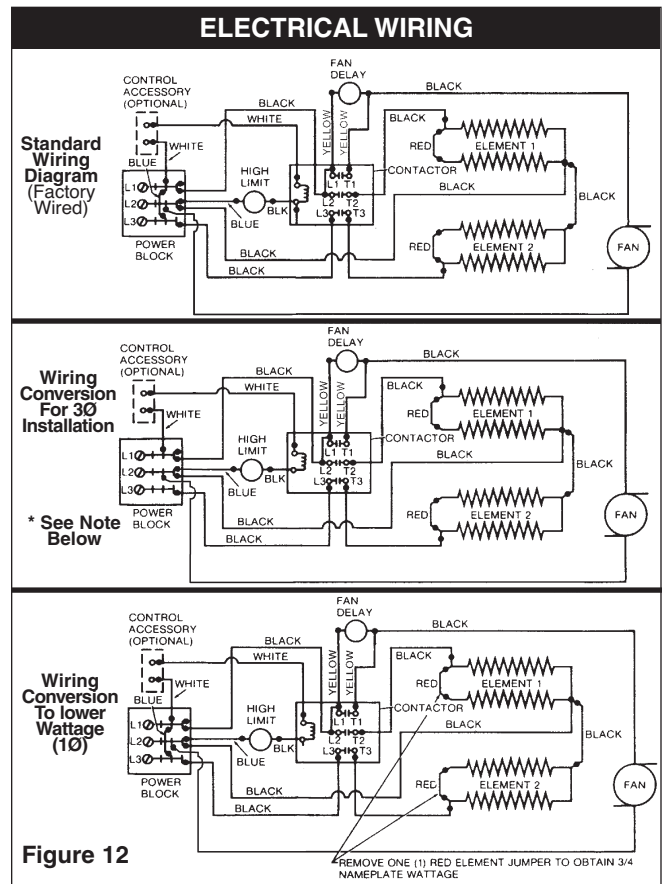

Figure 12
9. To wire the heater, and/or to convert from single to three-phase voltage, refer to "Electrical Wiring" (Figure 12, page 5).
7. To wire the heater, and/or to convert from single to three-phase voltage, refer to "Electrical Wiring" (Figure 12, page 5).
11. To wire the heater, and/or to convert from single to three-phase voltage, refer to "Electrical Wiring" (Figure 12, page 5).